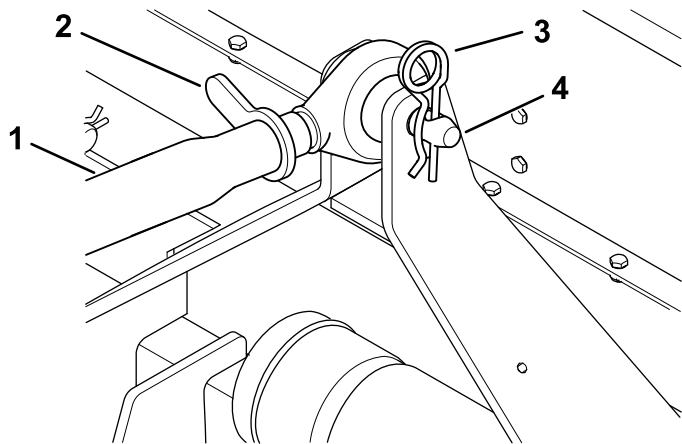

Figure 10
2. Loosen the upper link jam nut and rotate the upper link (Figure 10).